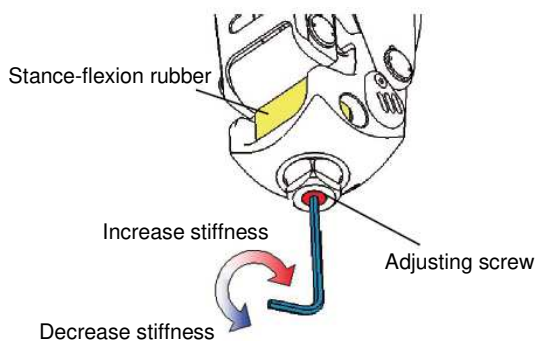

Fig. 9 How to Adjust Stance-Flexion Stiffness
- Adjust the adjusting screw shown in Fig. 9 with a 3 mm hexagonal wrench.